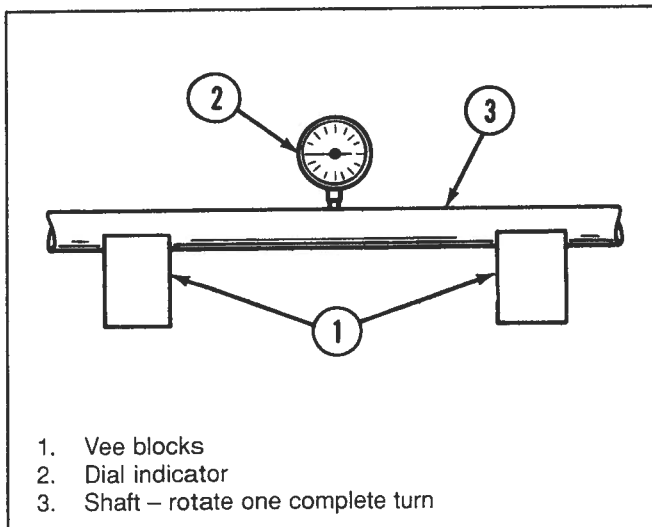

Figure 11-17. Checking For Bent Shaft
1. Check propeller shaft for straightness (Figure 11-17). Check at 3 or 4 places. Replace or straighten shaft if more than 0.04 in. (0.10 mm) from straight.